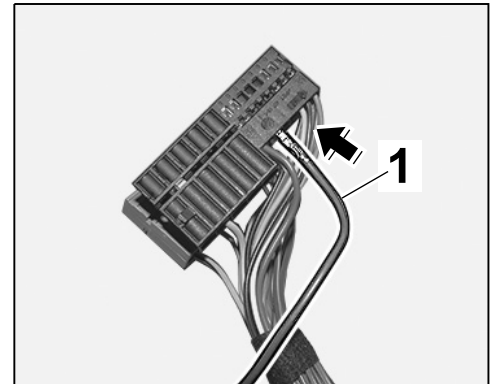

Figure 15
- 2.4.2 Insert socket contact \Rightarrow *Figure 15 -1-* into chamber A37 of the black plug socket.